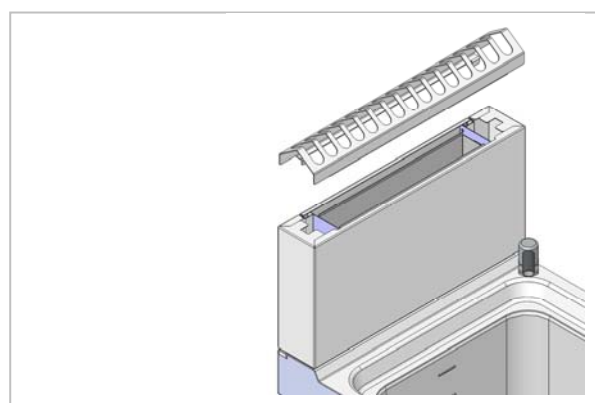

Figure 1 – Removable top flue grid assembly
5. Connect machine outlet pipe (fig. 1) to a suitable manifold that withstands high temperatures.